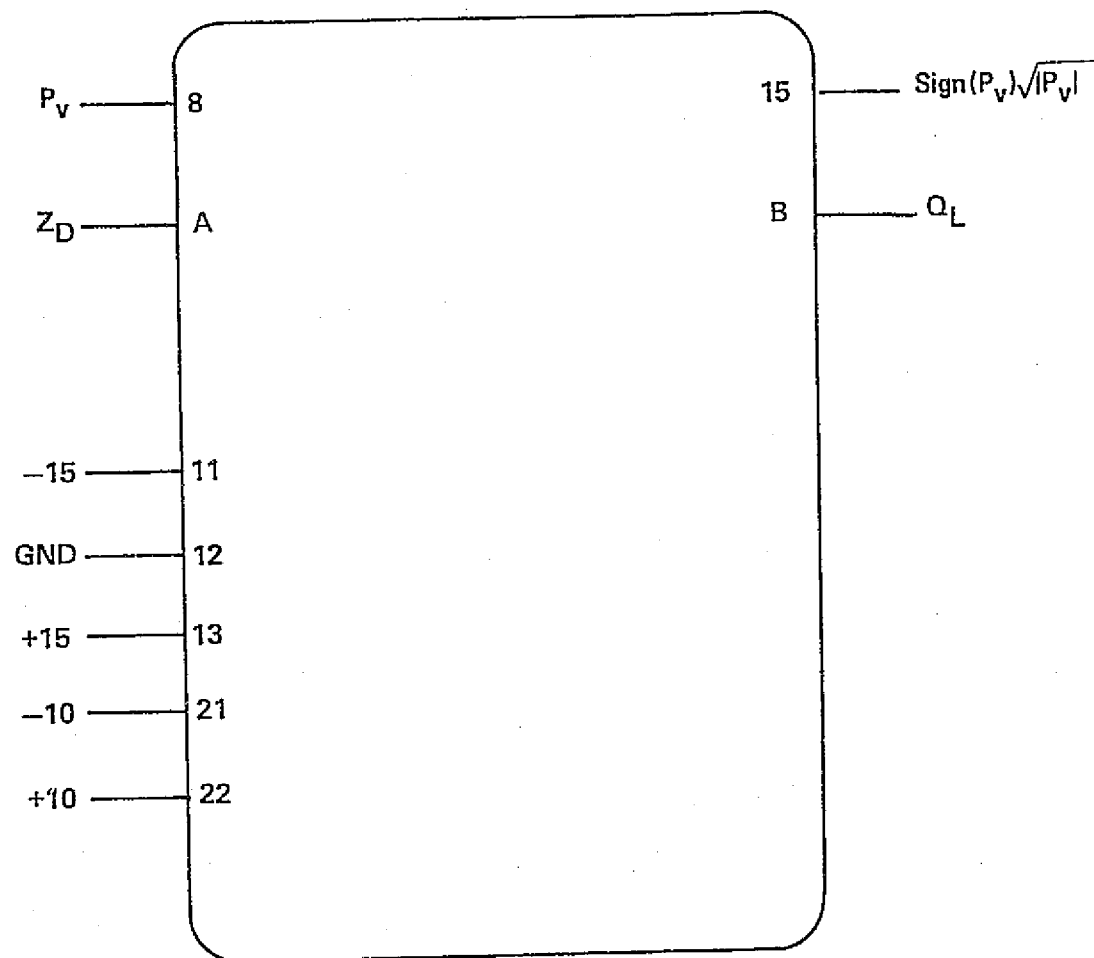

Figure 1. - Load flow board test configuration.
- A. Insert board in fixture and apply power as shown in figure 1.